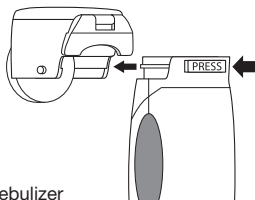

Fig. 13
10. Remove the nebulizer: hold the main unit with left hand, press the PRESS-key (over the jack for adapter) with your left thumb along the direction of arrow (see Fig. 13); hold both sides of the lower end of nebulizer the right hand to gently pull it out.